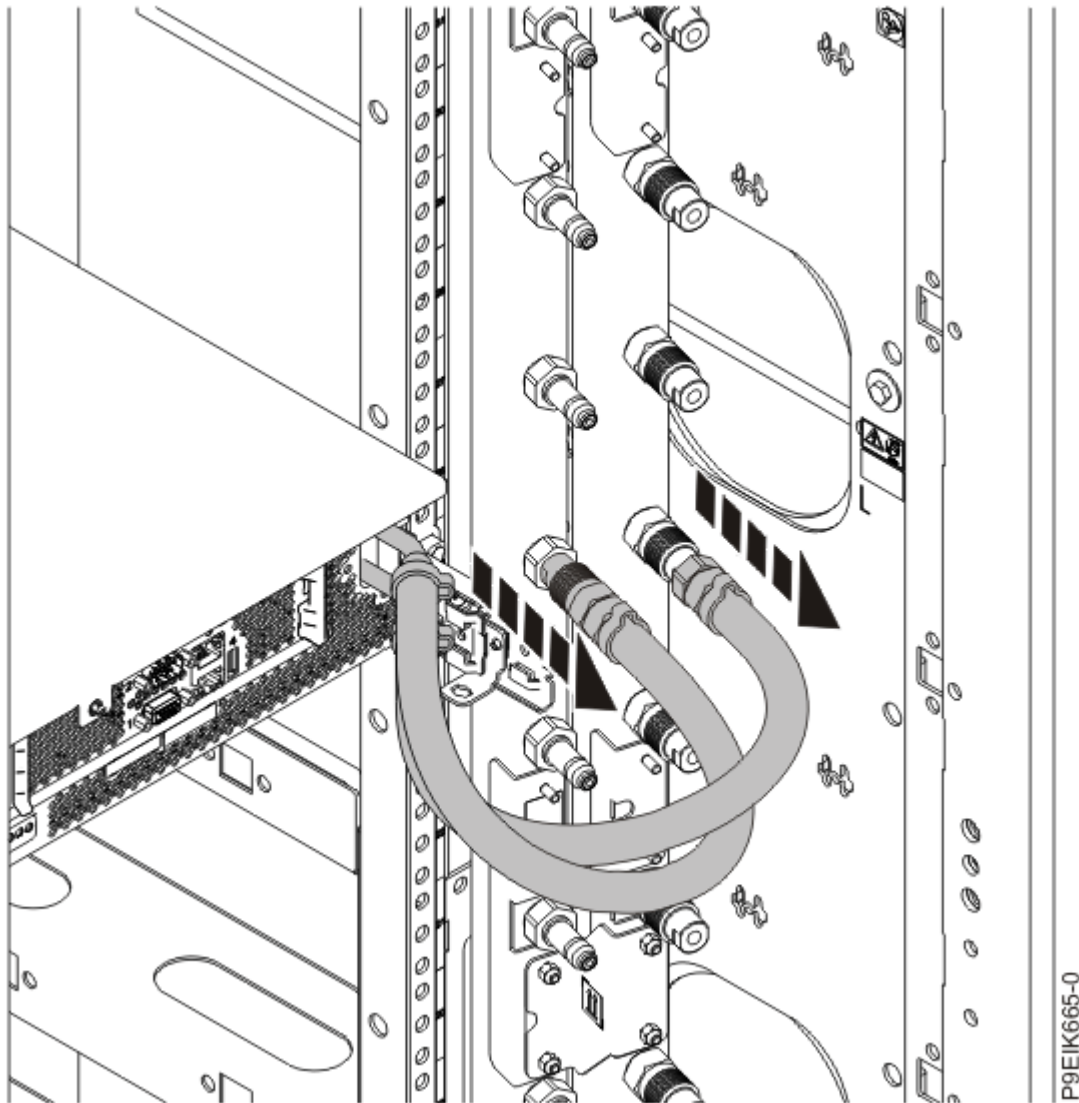

Figure 49. Disconnecting the water hoses
2. For a water-cooled system, label and disconnect the water hoses at the manifold. Pull the coupling toward you to disconnect the water hoses as shown in Figure 49 on page 99.